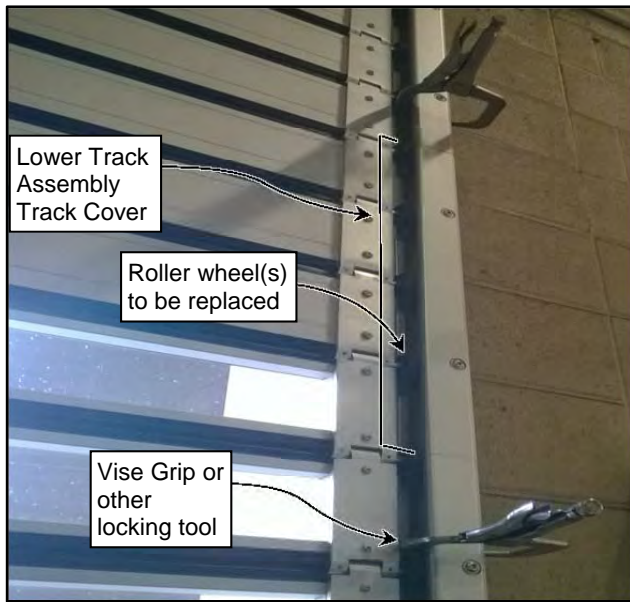

Figure 57
3. Position clamps along both edges of the door above and below the Lower Track Assembly track cover to be removed for roller wheel/guide wheel replacement to prevent unexpected door movement as shown. (See Figure 57)